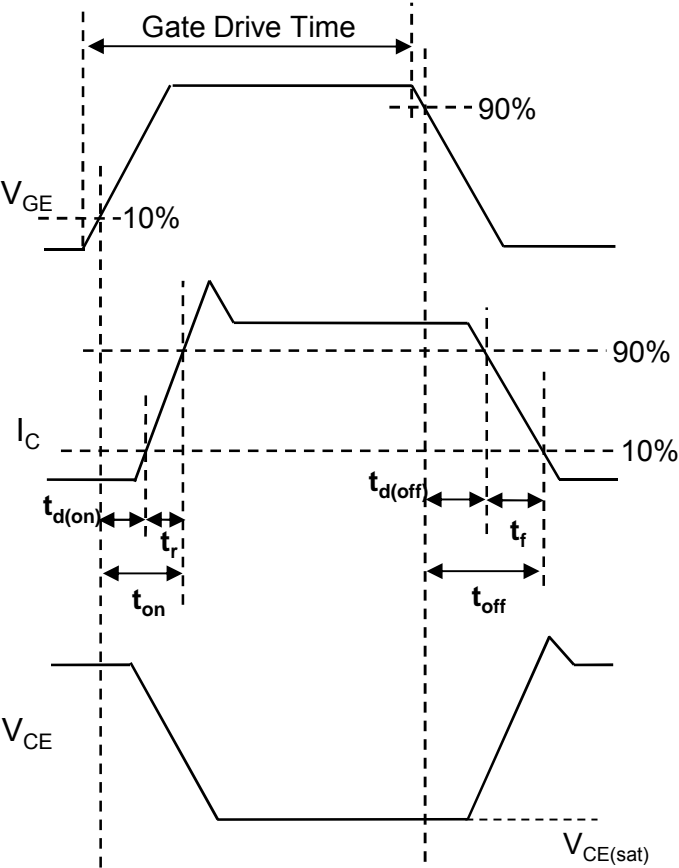

Fig.18 Inductive Load Switching Waveform
*1) Assurance items according to our measurement definition (Fig.18)